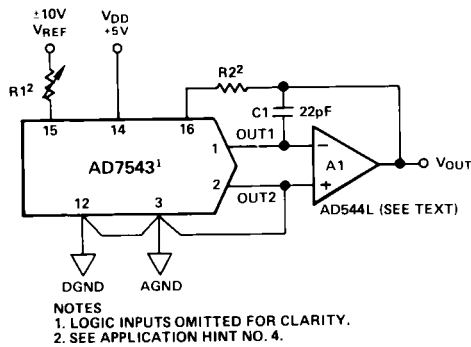
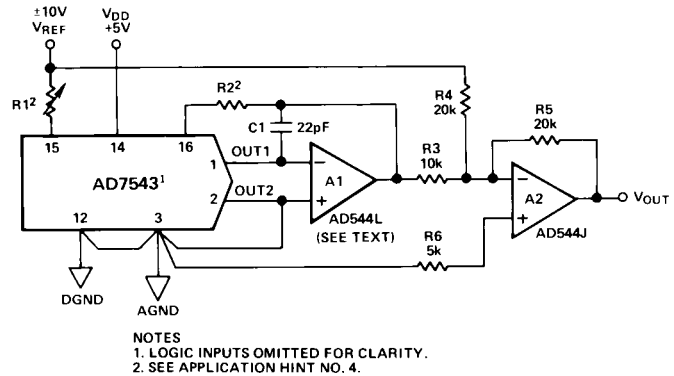

Figure 6. Unipolar Binary Operation (2-Quadrant Multiplication)
Figure 7. Bipolar Operation (4-Quadrant Multiplication)
Gain is defined as the ratio of the DAC's Full Scale output to its reference input voltage. An *ideal* AD7543 would exhibit a gain of $-4095/4096$. Gain error is adjustable using external trims as shown in Figures 6 and 7.
Register B can be asynchronously reset to 0000 0000 0000 by bringing \overline{CLR} momentarily LOW. This allows the DAC output voltage to be set to a known condition, thus simplifying system initialization procedure. When operating the AD7543 in the unipolar circuit of Figure 6, a CLEAR causes the DAC output voltage to equal 0V. When using the bipolar circuit of Figure 7, a CLEAR causes the DAC output to equal $-V_{REF}$.
Figure 6 shows the analog circuit connections required for unipolar binary (2-quadrant multiplication) operation. The logic inputs are omitted for clarity. With a dc reference voltage or current (positive or negative polarity) applied at pin 15, the circuit is a unipolar D/A converter. With an ac reference voltage or current (again of + or - polarity) the circuit provides 2-quadrant multiplication (digitally controlled attenuation). The input/output relationship is shown in Table III.
Table III. Unipolar Binary Code Table for Circuit of Figure 6
Figure 7 and Table IV illustrate the circuitry and code relationship for bipolar operation. With a dc reference (positive or negative polarity) the circuit provides offset binary operation. With an ac reference, the eleven LSBs provide digitally controlled attenuation of the ac reference while the MSB provides polarity control.
Table IV. Bipolar Code Table for Offset Binary Circuit of Figure 7
4. **GAIN TEMPERATURE COEFFICIENTS:** The gain temperature coefficient of the AD7543 has a maximum value of $5\text{ppm}/^\circ\text{C}$ and a typical value of $2\text{ppm}/^\circ\text{C}$. This corresponds to gain shifts of 2.0LSBs and 0.82LSBs respectively over a 100°C temperature range. When trim resistors are used to adjust full-scale range as shown in Figures 6 and 7 the temperature coefficient of R1 and R2 should be taken into account. It may be shown that the additional gain temperature coefficients introduced by R1 and R2 may be approximately expressed as follows:—